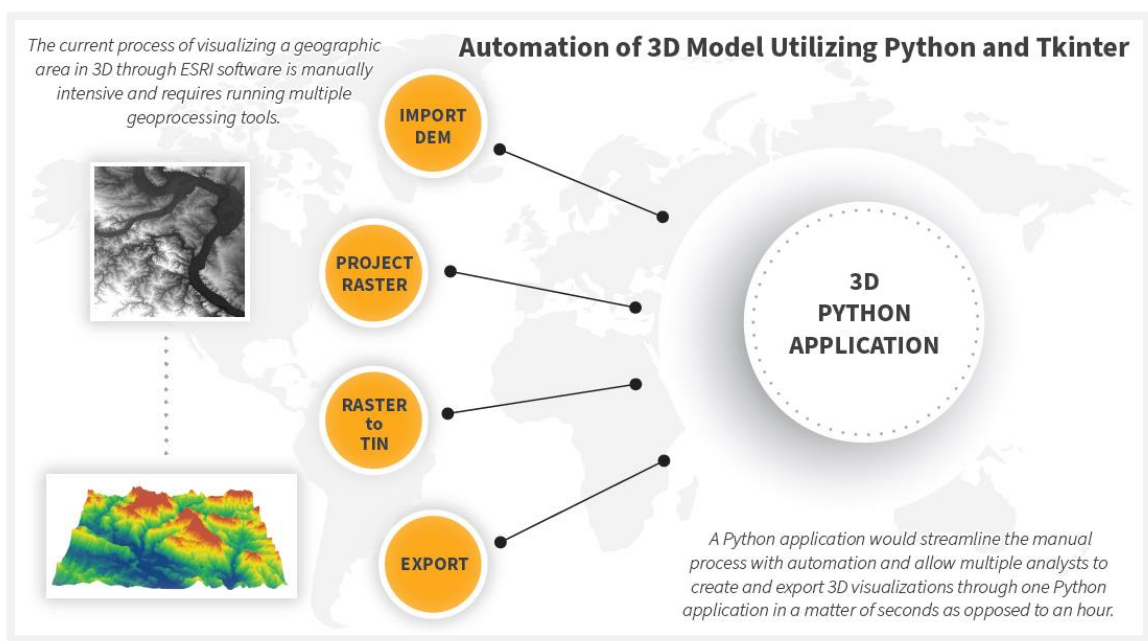

Figure 1: Infographic to visually represent the intended development of a 3D Python Modeler application
**Overview** – Throughout my career, I have been frequently tasked to create a 3D elevation visualization from a Digital Elevation Model (DEM). The current process of visualizing a geographic area in 3D through ESRI software, specifically ArcMap, is manually intensive, time consuming, and requires running multiple geoprocessing tools. The 3D Python Modeler application streamlines the manual process with automation and allows multiple analysts to create 3D visualizations through one Python application in a matter of seconds as opposed to an hour. The application was built in Python utilizing a variety of ArcPy and Tkinter libraries and implemented in a graphical user interface (GUI) that produces and exports a 3D model to optionally include reference GIS data sets of contours and a slope in degrees raster. The exported files are viewable in a variety of formats to include ArcMap, ArcScene, and CityEngine Web Viewer. The infographic in *Figure 1* depicts the geoprocessing tools required to create a 3D visualization and combines them into one application written in Python which minimizes the amount of time processing data and maximizes time providing surface information analysis to respective clients.